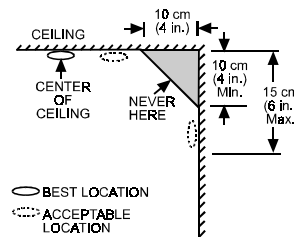

Figure 13. Recommended Best and Acceptable Locations to Mount Smoke Detectors
- Install smoke detectors as close to the center of the ceiling as possible. If this is not practical, put the detector on the ceiling, at least 10 cm (4 inches) away from any wall or corner, as shown in Figure 13.
- If ceiling mounting is not possible and wall mounting is permitted by your local and state codes, put wall-mounted detectors between 10 - 15 cm (4 - 6 inches) from the ceiling, also see Figure 13.
- Dead air spaces are often at the top of a peaked roof, or in the corners between ceilings and walls. Dead air may prevent smoke from reaching a detector. See Figures 13 and 14 for recommended mounting locations.